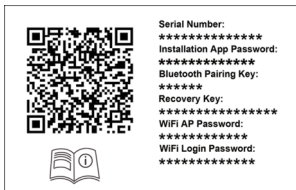

Figure 1: Example of the password sticker in the Safety Guide.
- a) Establishing a Bluetooth connection with the Wallbox. Please scan the multifunctional QR code with individual access information on the **password sticker in the Safety Guide / Installation: first steps** (see Figure 1 below for an example of the QR code).
9. Optional: Establishing the connection to the MyBMW App. To establish the connection, please use the multifunctional QR code with individual access information on the **password sticker in the Safety Guide / Installation: first steps** (see Figure 1 below for an example of the QR code).